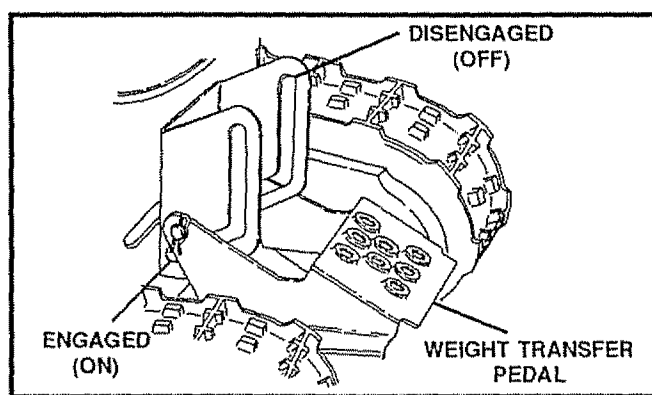

FIG.12
- To use the weight transfer, hold the upper handle firmly and push down on the weight transfer pedal (See Fig. 12) with the ball of your foot.